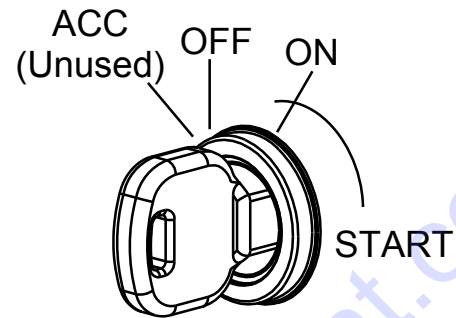

Figure 18. Ignition Switch and Key
2. Insert the ignition key into the ignition switch (Figure 18).